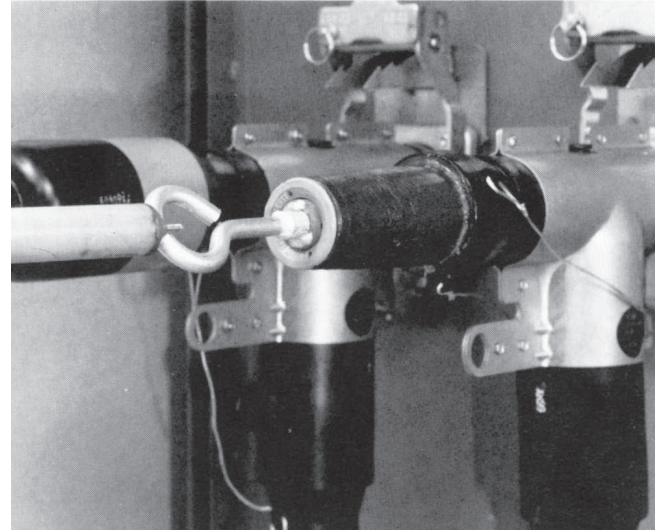

Figure 5. Test for voltage with test probe.
- Insert test probe into 200 A interface using hotstick. Refer to Figure 5.